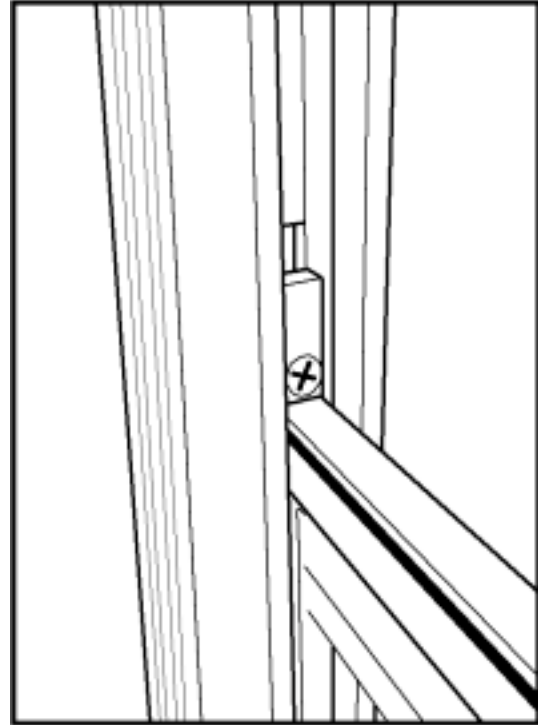

Figure 4—Window Latch Replacement
| Figure 4—Window Latch Replacement | 5 |
1. Remove screw and block located in side channel directly above stationary glass. **Figure 4.**